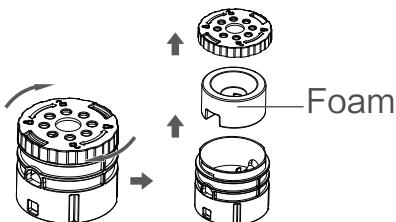

Fig 7
6. When cleaning the components of the float, first rotate the upper shell of the float clockwise and take it out, and then take out the foam of the float as shown in **Fig 7**.
The foam of the float in **Fig 7** is important part of atomizing head assembly,